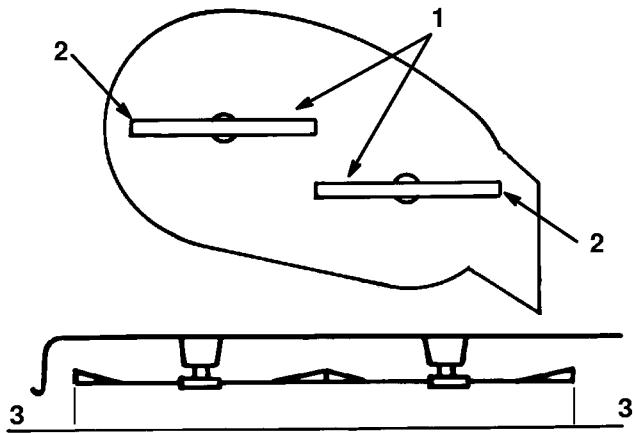

Figure 49
4. Carefully rotate blade(s) side to side (Fig. 49). Measure between the outside cutting edges and the flat surface (Fig. 49). If both measurements are not within $3/16"$ (4.7 mm), an adjustment is required; refer to steps 5 and 6.